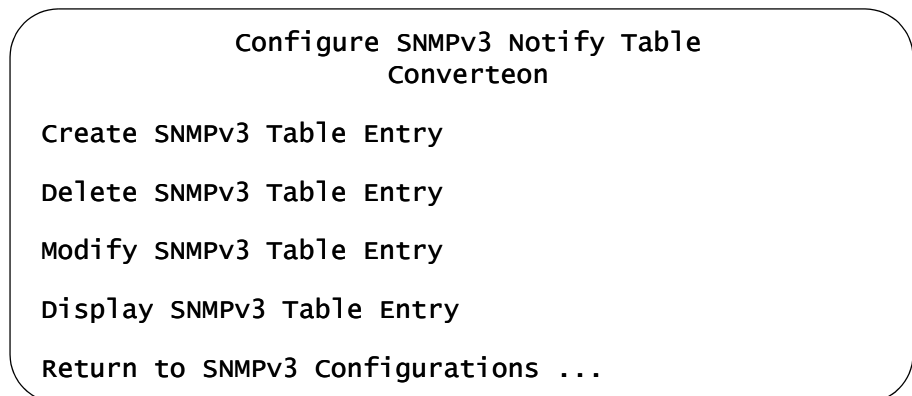

Figure 132. Configure SNMPv3 Notify Table Menu
- ❑ From the Main Menu, select **Configuration -> System Configuration -> System Parameters Configuration -> SNMPv3 Configurations -> Configure SNMPv3 Notify Table**. The Configure SNMPv3 Notify Table menu is shown in Figure 132.